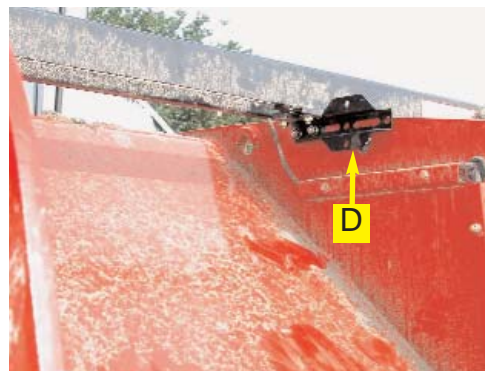

Figure 2b. Installed mounting bracket.
- b. Install the mounting bracket (**D**) to the two existing bolts. If your tractor is not equipped with a light bar use the hardware in group (**F**) to install the bracket (**D**). (Figure 2b.)